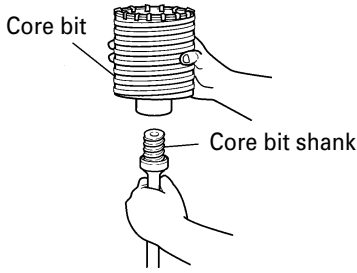

Fig. 16
- Mount the core bit to the core bit shank. (Fig. 16)